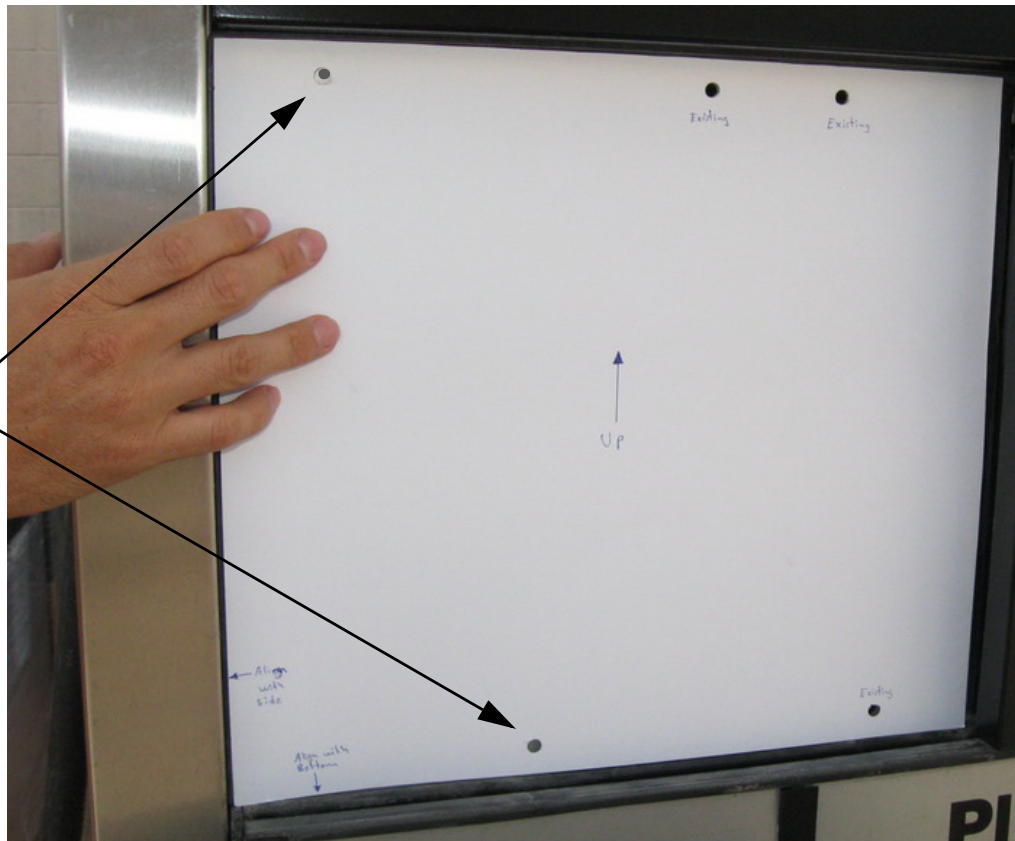

FIGURE 12
12. Using the (WU002583-0001) template provided, align the two top right holes and the one bottom right hole of the template with the holes on the head frame, then mark the location for one new hole to be punched at top left on template and one new hole at bottom on template. Fig 12.
14. On the DPT bracket, remove (2) screws/nuts on the two board slide rails, remove and discard the rails and hardware.